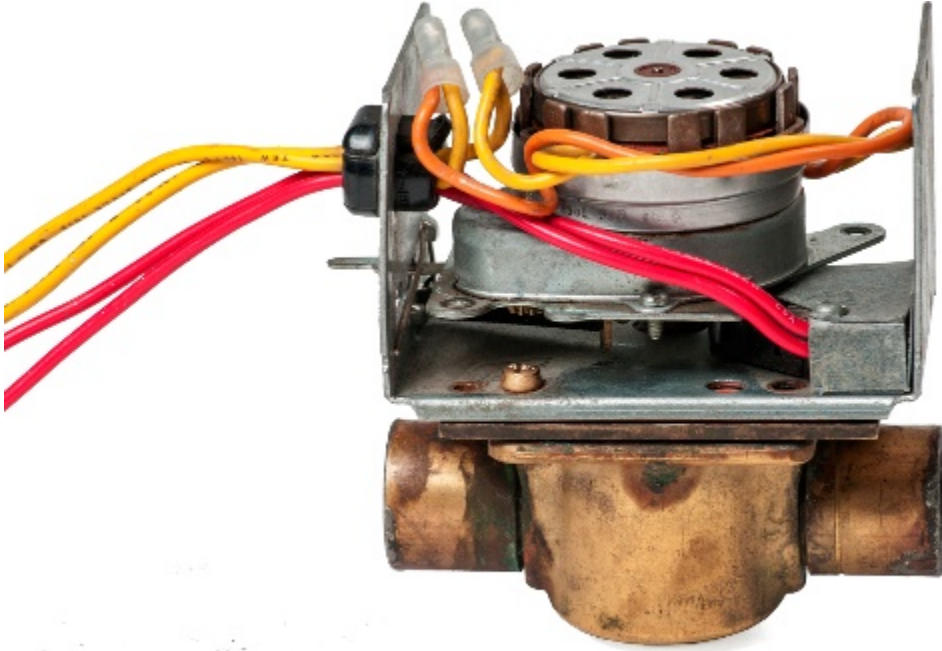

Figure 14 Zone valve with end switch
- Figure 14 4-way mixing valve © Viega. Used with permission.
- Figure 14 Zone valve with end switch by ITA is licensed under a CC BY-NC-SA licence.